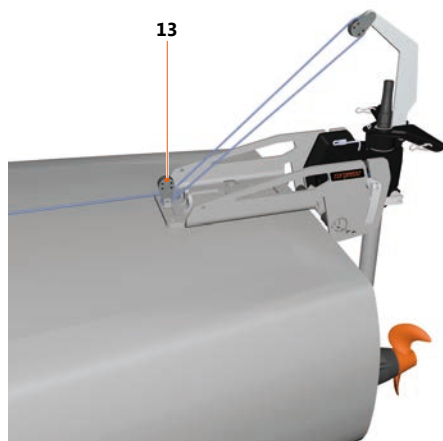

Fig. 65: Cord pull 1103 AC models
1. Hook the carabiner on the swivel cord (11) into the swing arm (12).
2. Thread the swivel cord (11) through one of the two guides (10).
For the model 1103 AC you must thread the swivel cord (11) through the cord pull, see "**Fig. 65: Cord pull 1103 AC models**".
3. Fix the black ball handle on the front end of the swivel cord (11).